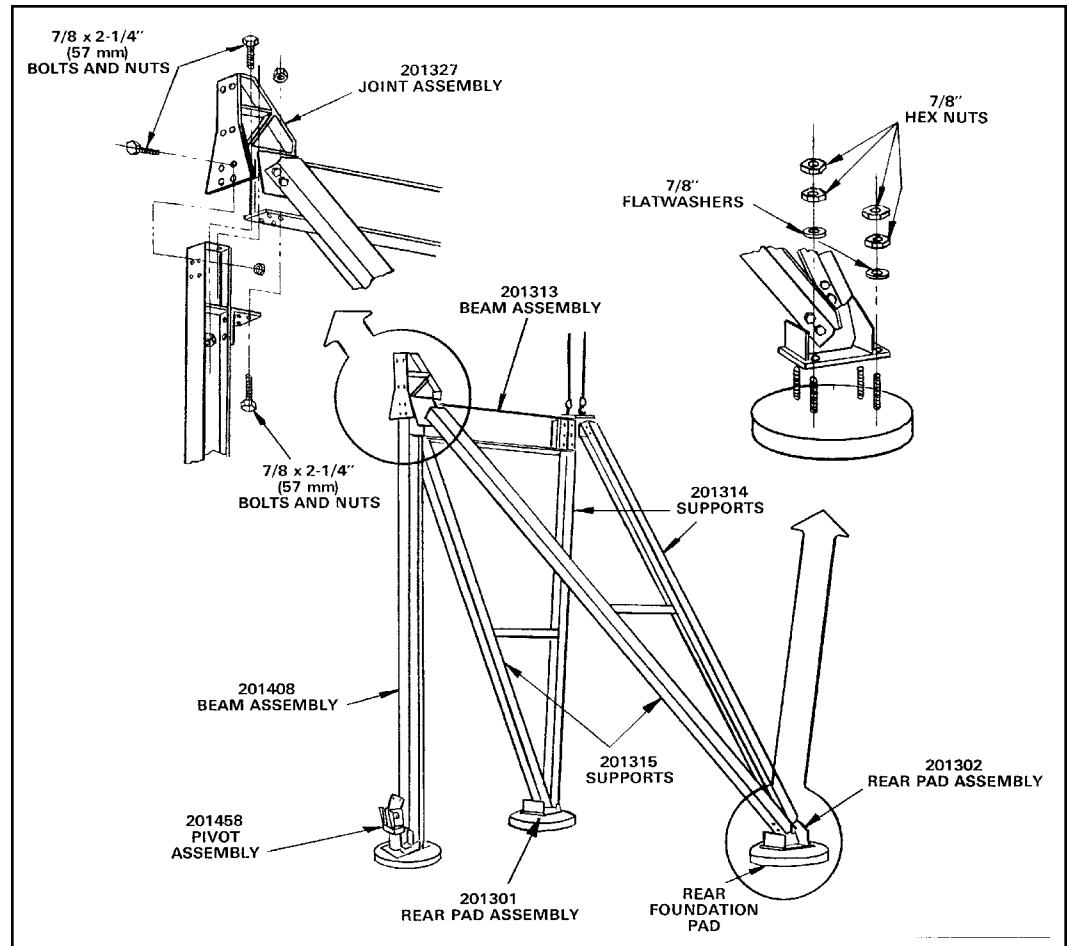

Figure 31
Step 3 Attach rear pad assemblies to rear foundation pads as pictured in Figure 31.